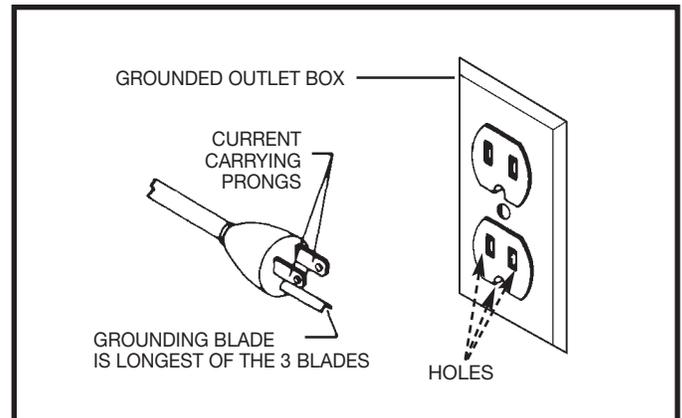
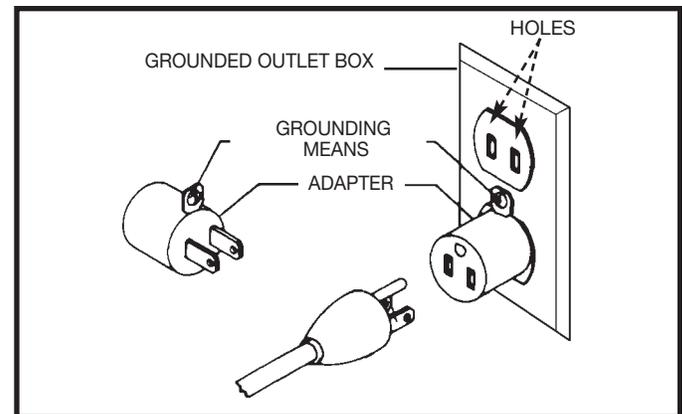

Fig. 13
Fig. 14
is intended for use on a circuit that has an outlet and a plug that looks like the one shown in Fig. 13. A temporary adapter, which looks like the adapter illustrated in Fig. 14, may be used to connect this plug to a 2-pole receptacle, as shown in Fig. 14 if a properly grounded outlet is not available. The temporary adapter should be used only until a properly grounded outlet can be installed by a qualified electrician.
**THIS ADAPTER IS NOT APPLICABLE IN CANADA.** The green-colored rigid ear, lug, and the like, extending from the adapter must be connected to a permanent ground, such as a properly grounded outlet box, as shown in Fig. 14.